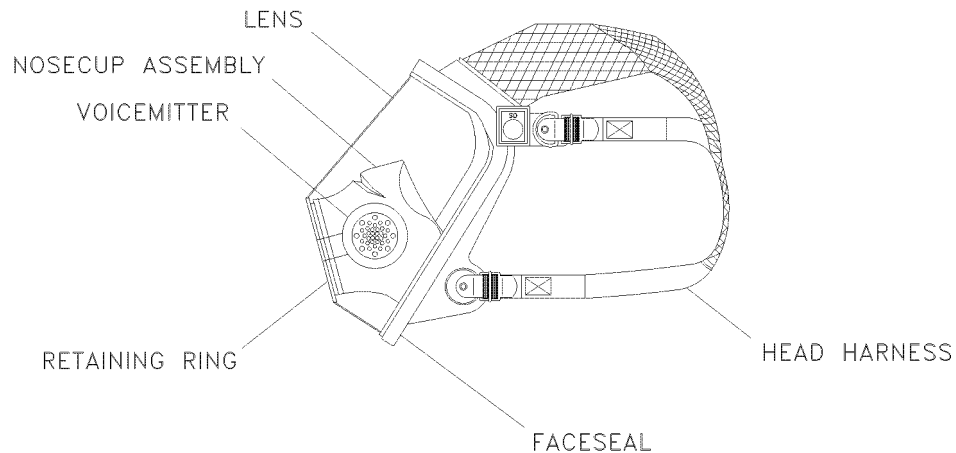

Figure 077-3-13. AV-3000® Facepiece Components
- c. AV-3000® Facepiece. AV-3000® facepiece (Figure 077-3-13) components are a head harness, lens, nosecup assembly, two inhalation check valves, and two voicemitters.